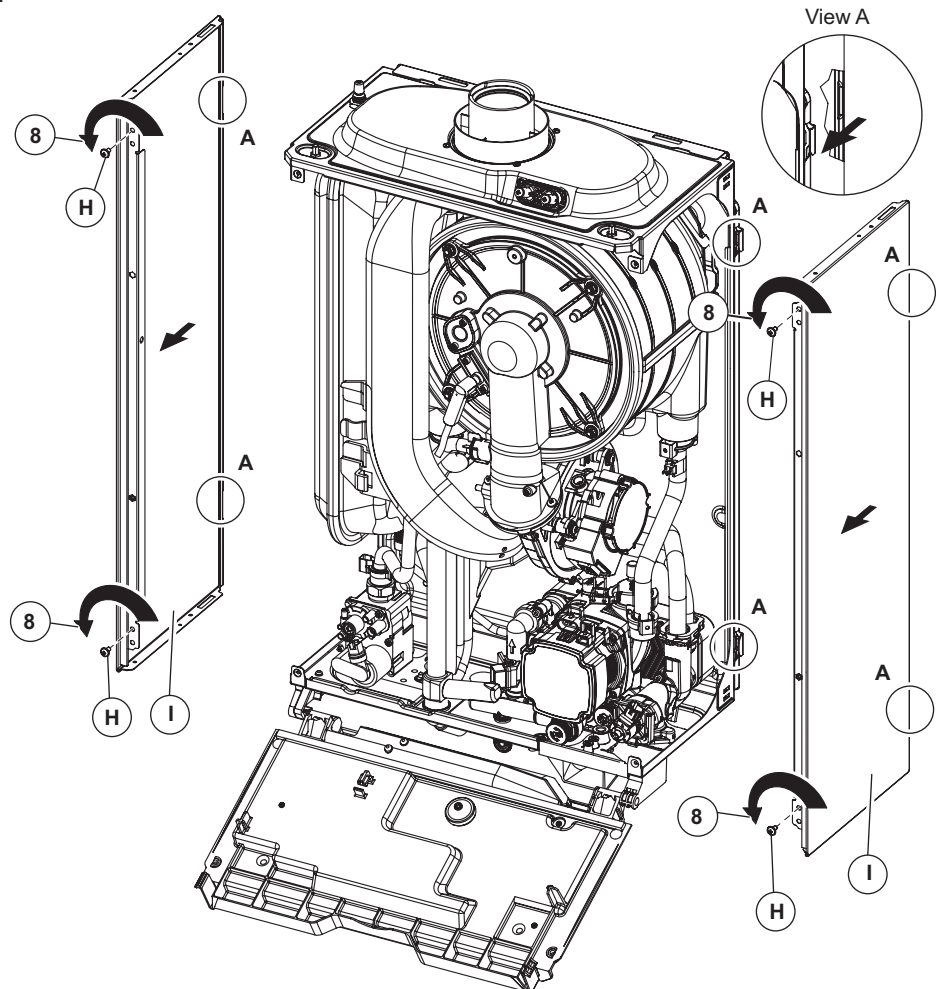

Fig. 7.4
### Side panels - Fig. 7.4
8. Remove the screws 'H' securing the side panel 'I'. Lift the side panel and pull it forwards unhooking it from the rear panel (view 'A' in Fig. 7.4) Lower the panel out and away from the top cover.